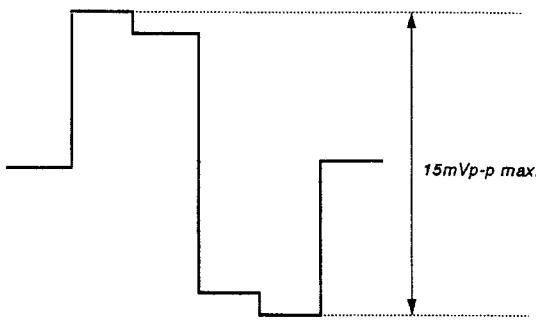

Fig. 11
5. Adjust **SUB PHASE** to minimize the output waveform (15 mVp-p max.) (Fig. 11)
4. Adjust **SUB PHASE** to minimize the output waveform (15 mVp-p max.) (Fig. 11)